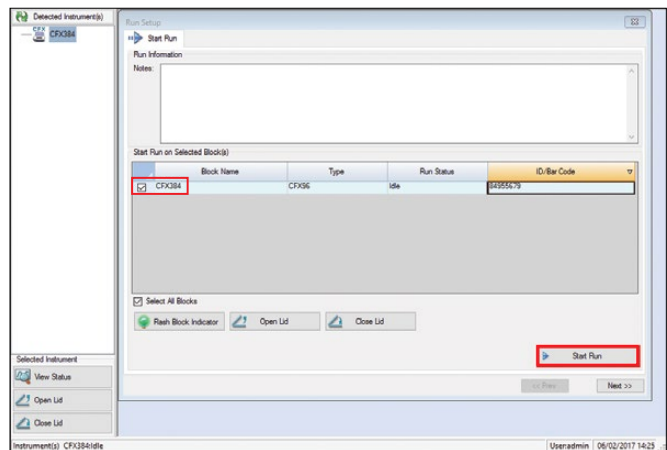

Fig. 2. Selecting Start Run in the Run Setup window.
6. In the Run Setup window, under Start Run on Selected Block(s), make sure the checkbox corresponding to the CFX instrument being used for the Qualification Plate run is selected (Figure 2).
7. Enter the plate's barcode number and click **Start Run** (Figure 2).